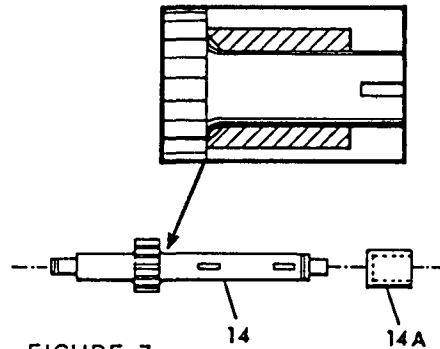

FIGURE 7
- A. PRESS BEARING (6) OFF SHAFT (14). REMOVE SNAP RING (19) AND PRESS OFF GEAR (18). SLIDE OFF SLEEVE (17) AND PRESS OFF GEAR (16).
NOTE: IN EARLY MODEL TRANSMISSIONS SHAFT (14) HAD A MACHINED SHOULDER. BEGINNING IN 1971 HEAVY DUTY SHAFTS WERE USED WITH A SPACER (14A) INSTEAD OF THE MACHINED SHOULDER. WHEN REASSEMBLING SPACER (14A) THE CHAMFERED END MUST FACE FIXED GEAR ON SHAFT (SEE FIGURE 7).